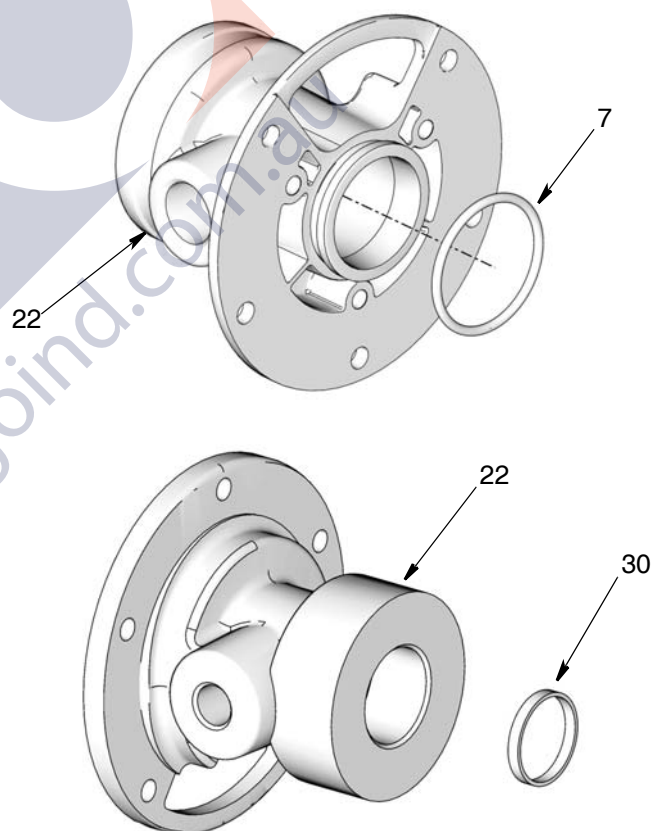

Fig. 27
3. Use a pick to remove o-ring (7) and gasket (30) from inside flange (22) (Fig. 27). Grease the o-ring and replace the o-ring and gasket in flange.